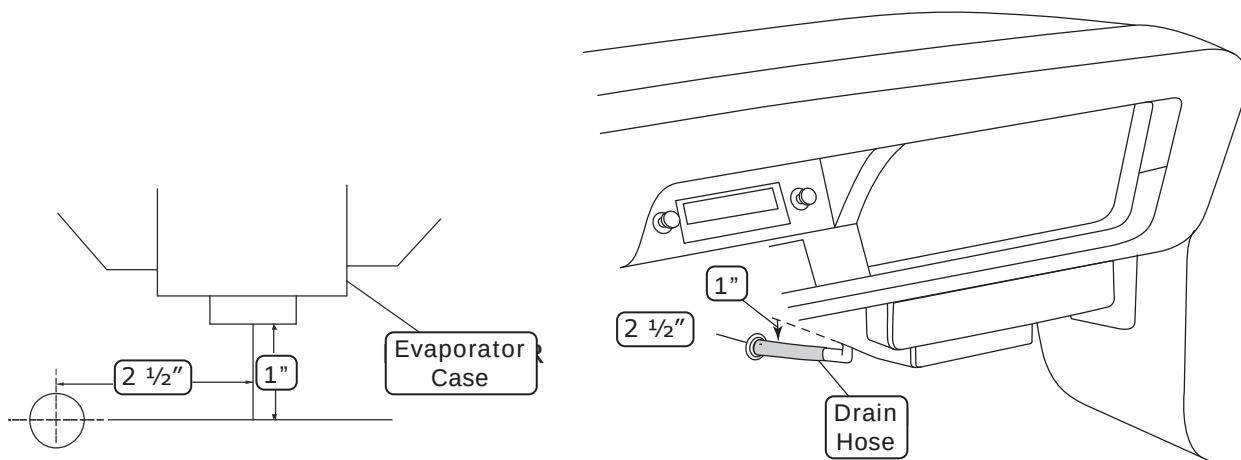

Figure 1
1. Locate the #8 compressor A/C hose. Lubricate (2) #8 O-rings (See Lubricating O-rings, Page 13), and connect the 45° female fitting with 134a service port to the #8 discharge port on the compressor. Then route the 90° female fitting to the #8 condenser hardline coming through the core support (See Figure 1, Page 19). Tighten each fitting connection.